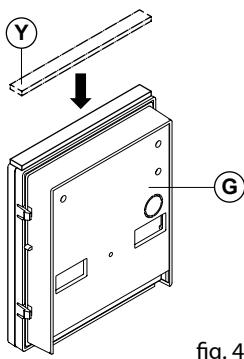

fig. 4
3. Apply the **Y** silicon sealant on top of each module as shown in **Fig. 4**;